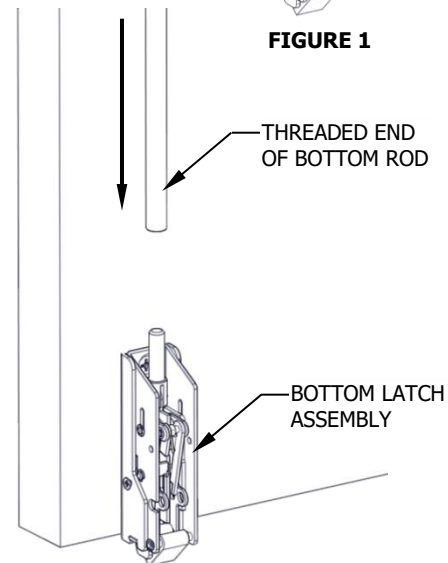

FIGURE 2
STEP 2: Screw threaded end of bottom rod halfway onto bottom latch assembly (see Figure 2).
STEP 3: Be sure top latch is in the locked position (not retracted). If rod required cutting in step 2, rethread top rod half-way onto top latch threaded connector. Fasten bottom end of top rod onto actuating block on exit device chassis. This may require raising or lowering the top rod by threading it clockwise or counterclockwise on the top latch threaded connector (see Figure 2).